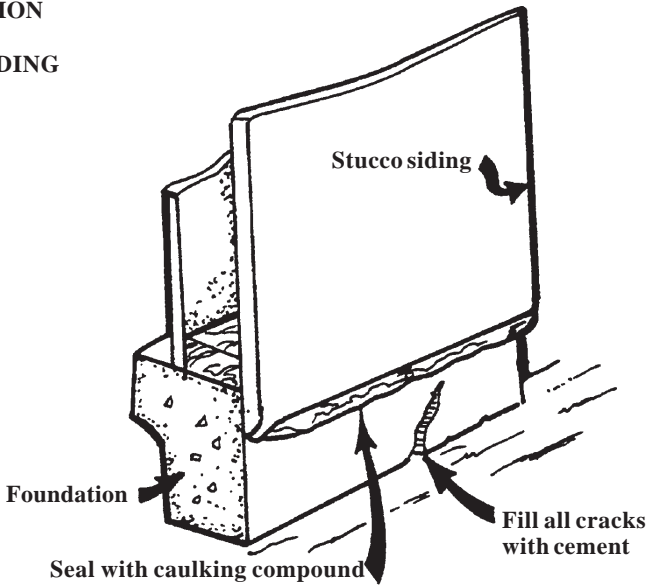

FIGURE 8
1. Patch up all cracks in the outside stucco and concrete foundation with regular patching mixes available at hardware stores (see Figure 8).
4. Seal the joint between the siding and foundation with caulking compound. See Figure 8.